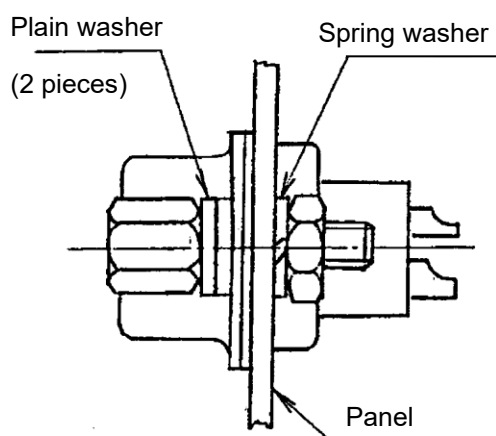

Figure 4. Front Mounting
- (1) Female screw locks are installed differently depending on whether they are installed on the front surface or the back surface of panel chassis.
- (2) To install on the front surface of the panel, use two plain washers, which come with the product, as shown in Figure 4.